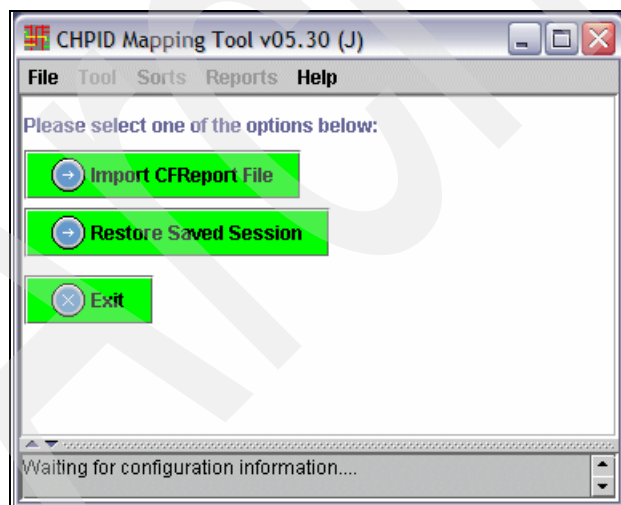

Figure 4-50 CMT - Import CFReport Order file
3. Click **File** → **Import CFReport file** (Figure 4-50).